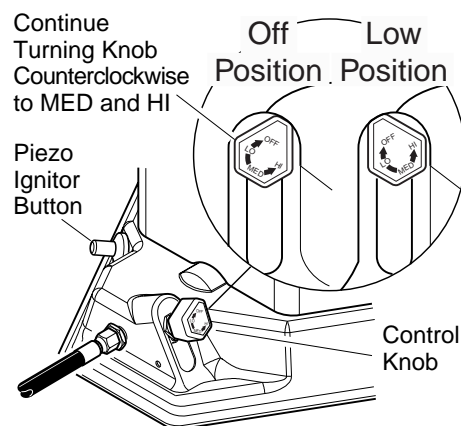

Figure 4 - Control Knob and Piezo Ignitor Button Locations
5. Slightly depress and turn control knob counterclockwise to the LOW position (see Figure 4).
8. When burner remains lit, set heater at the desired heat level by slightly depressing the control knob and turning it counterclockwise to the MED or HIGH settings (see Figure 4).